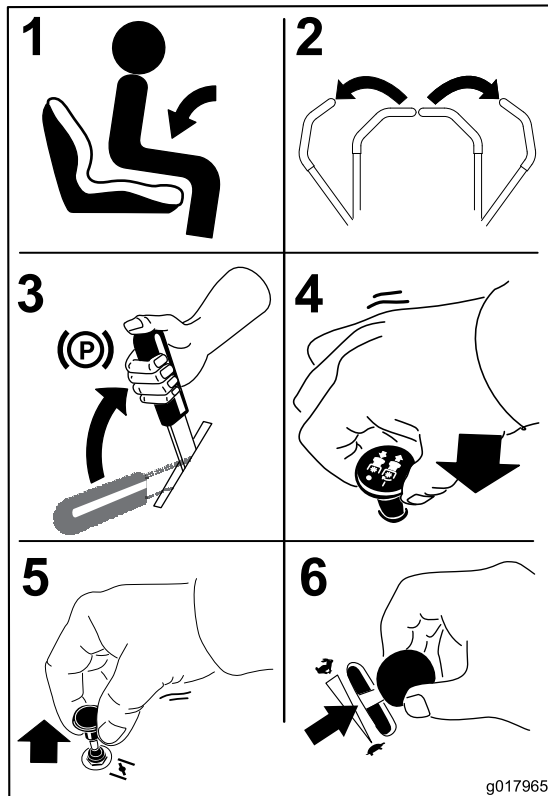

Figure 14
1. Sit down on the seat (Figure 14).
2. Move the motion controls outward to the neutral lock position (Figure 14).
4. Move the blade control switch (PTO) to the Off position (Figure 14).
6. Move the throttle halfway between the fast and slow positions (Figure 14).